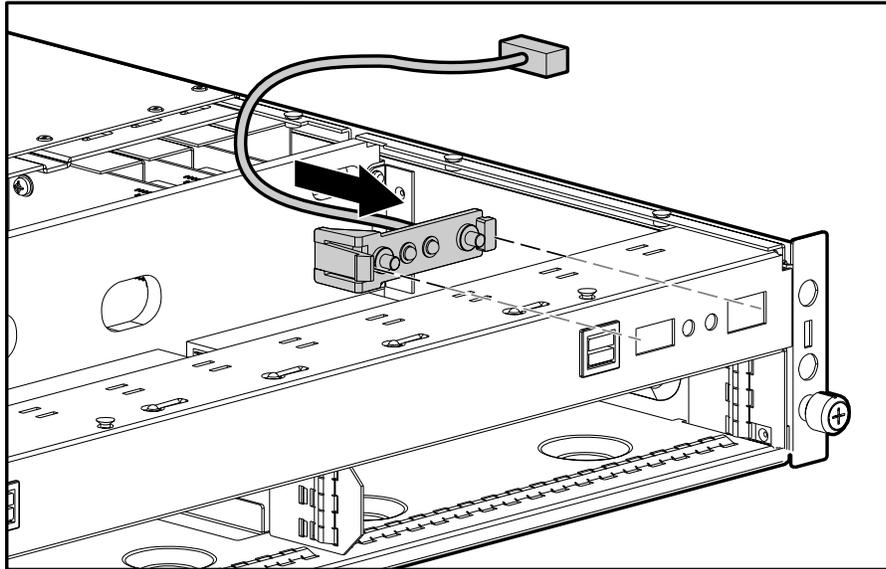

Figure 28: Reseating the power switch assembly
11. Insert the new power switch assembly into the front panel and push into its seated position, as shown in Figure 28.